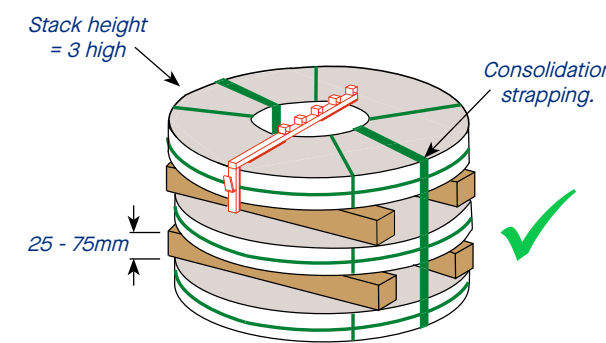

Fig 3.2: Slit coils strapped together with intermediate dunnage are considered as a pack of individual slit coils.
- ✓ Slit Coils strapped together with intermediate dunnage are considered as individual slit coils, regardless of the size of the dunnage used. These consolidated slit coils can be referred to as a 'pack of slit coils'. (Eg. A pack of 3 slit coils has a stack height of 3, not 1). (Fig. 3.2)